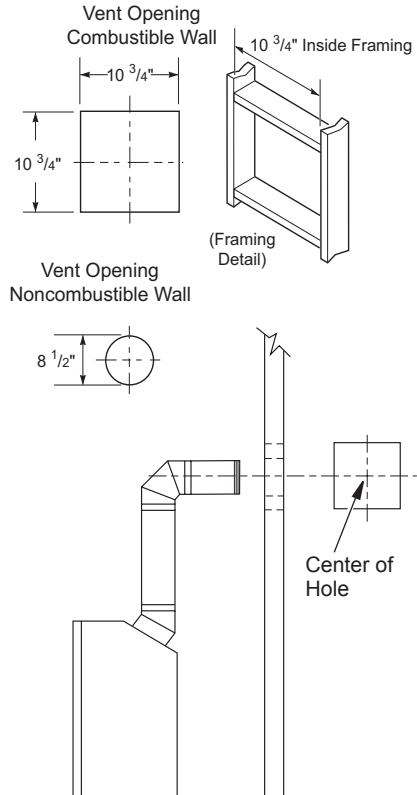
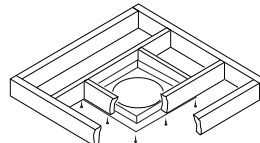

Figure 9 - Vent Opening Requirements
Figure 20 - Installing Firestop
5. Carefully determine the location where the vent pipe assembly will penetrate the outside wall. The center of the hole should line up with the center-line of the horizontal vent pipe. Mark the wall for a 10 3/4" x 10 3/4" square hole. Cut and frame the square hole in the exterior wall where the vent will be terminated. If the wall being penetrated is constructed of noncombustible material, such as masonry block or concrete, a 8 1/2" hole with zero clearance is acceptable (see Figure 9).
1. Cut a 10 3/4" square hole in the ceiling using the locating hole as a center point. The opening should be framed to 10 3/4" x 10 3/4" inside dimensions, as shown in Figure 9 on page 10 using framing lumber the same size as the ceiling joists. If the area above the ceiling is an insulated ceiling or an attic, nail firestop from the top side. This prevents loose insulation from falling into the required clearance space. Of the area above the ceiling is a living space, install firestop below the framed hole. The firestop should be installed with no less than three nails per side (see Figure 20).
3. Cut a hole in the roof using the locating hole as a center point. (Cover any exposed open vent pipes before cutting hole in roof.) The 10 3/4" x 10 3/4" hole must be measured on the horizontal; actual length may be larger depending on the pitch of the roof. There must be a 1" clearance from the vent pipe to combustible materials. Frame the opening as shown in Figure 9, page 10.